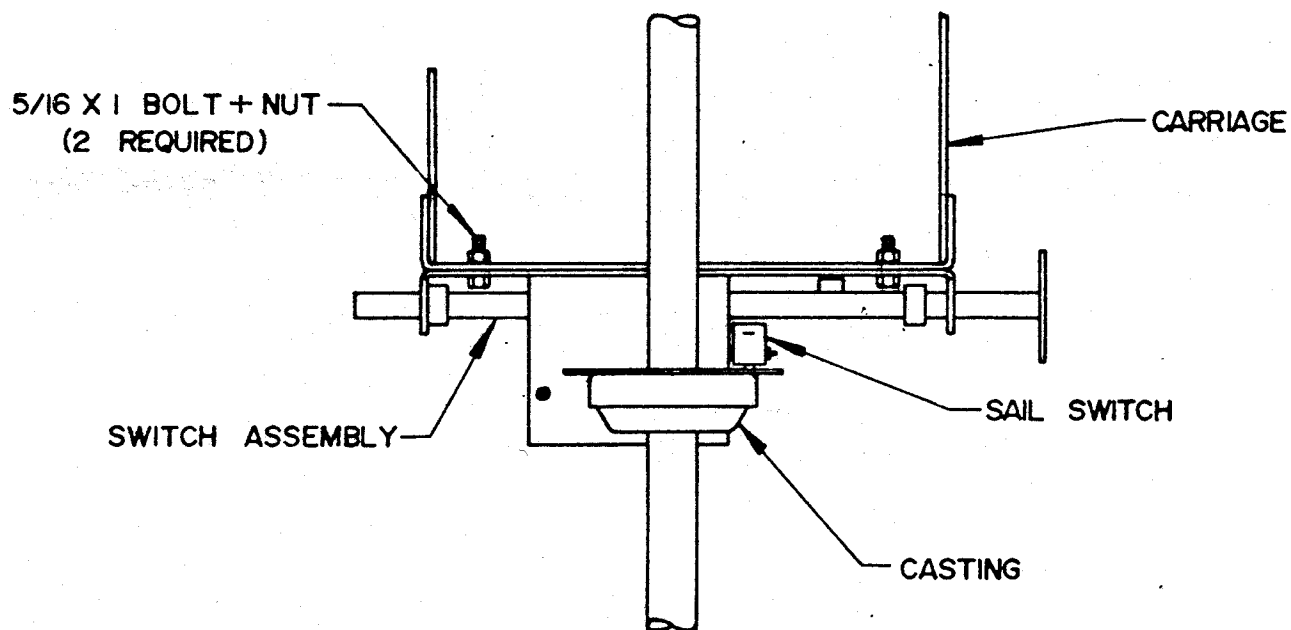

Fig. 6
6. A. Bolt reversing switch to inside carriage near the center of bin as shown on Fig. 6.